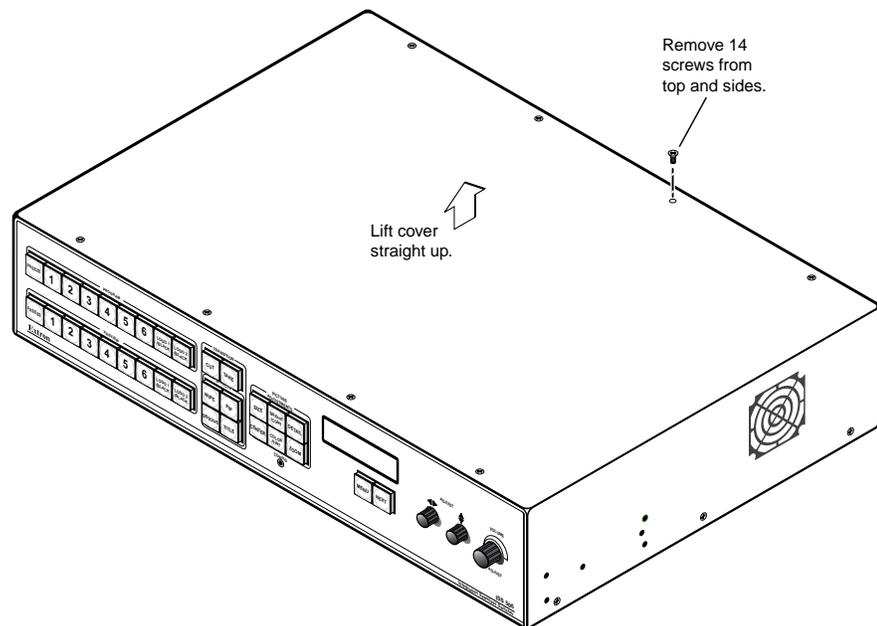

Figure 7-1 — Removing the ISS cover
- 3 Remove and retain the 14 screws, 8 on the top and 3 on each side of the ISS cover (figure 7-1).